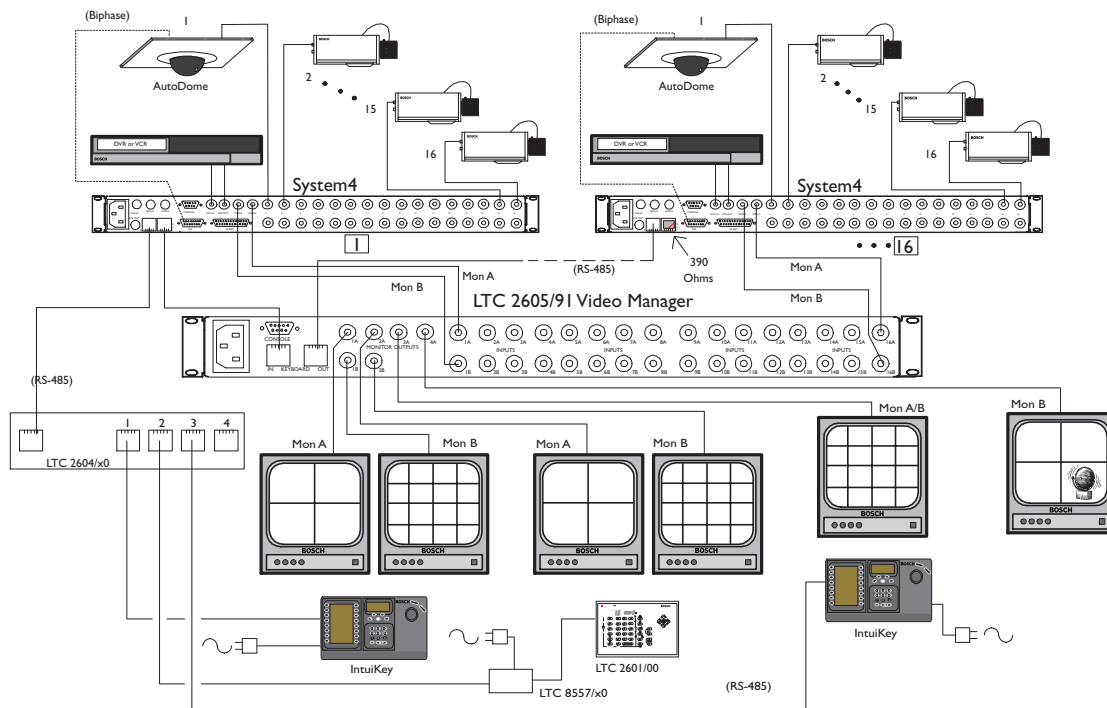

Figure 5 – Video Manager with IntuiKey Keyboards, an LTC 2601/00 Keyboard, and an Alarm Monitor
- Three Keyboard Configuration using LTC 2604 Keyboard Expander (Reference Figures 5 and 6 in Section 4: Installation Diagram):
*Functional Notes for Figures 5 & 6:*